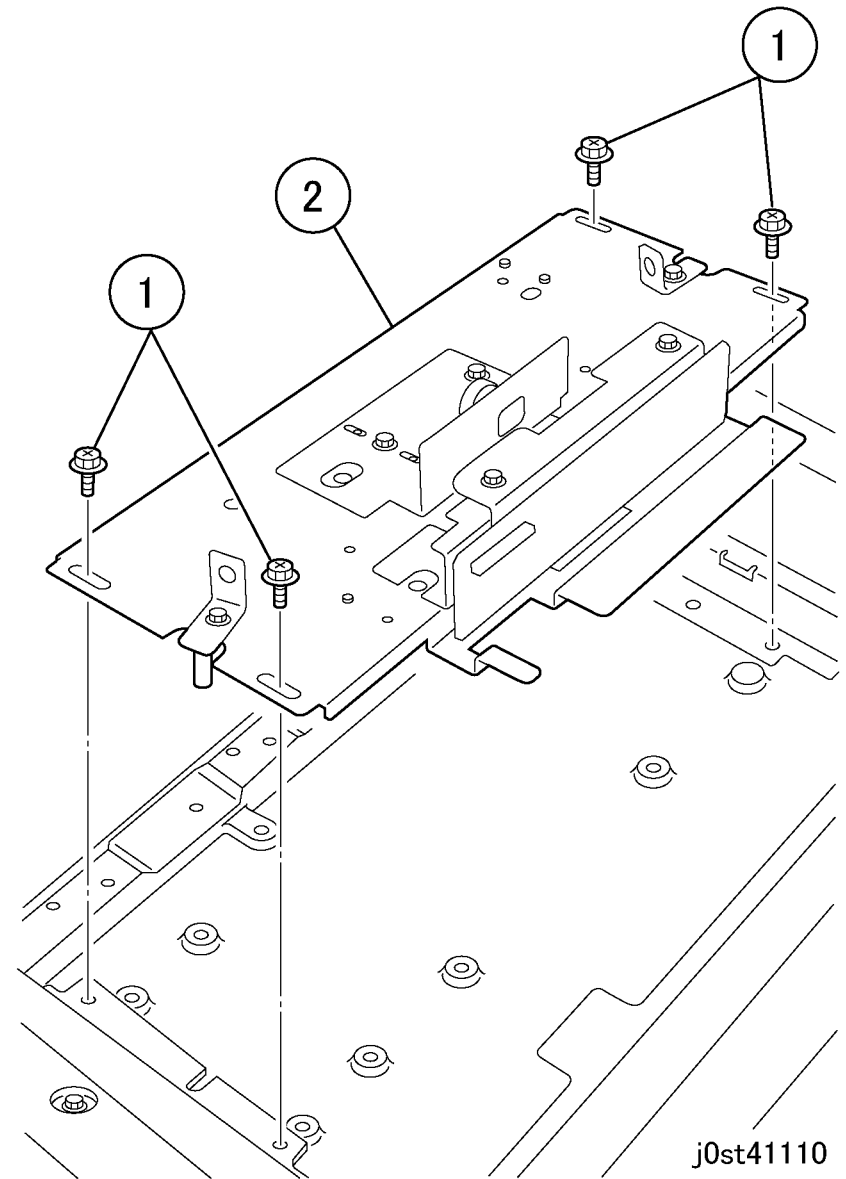

Figure 4 Removing the Lens Kit Assembly (j0st41110)
5. Replace the Lens Kit Assembly. (Figure 4)